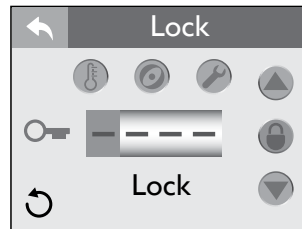

Figure 12.8b
A. **Temp Lock (Figure 12.8b):**
B. **Spa Lock (Figure 12.8b):**
C. **Service Lock (Figure 12.8b):**